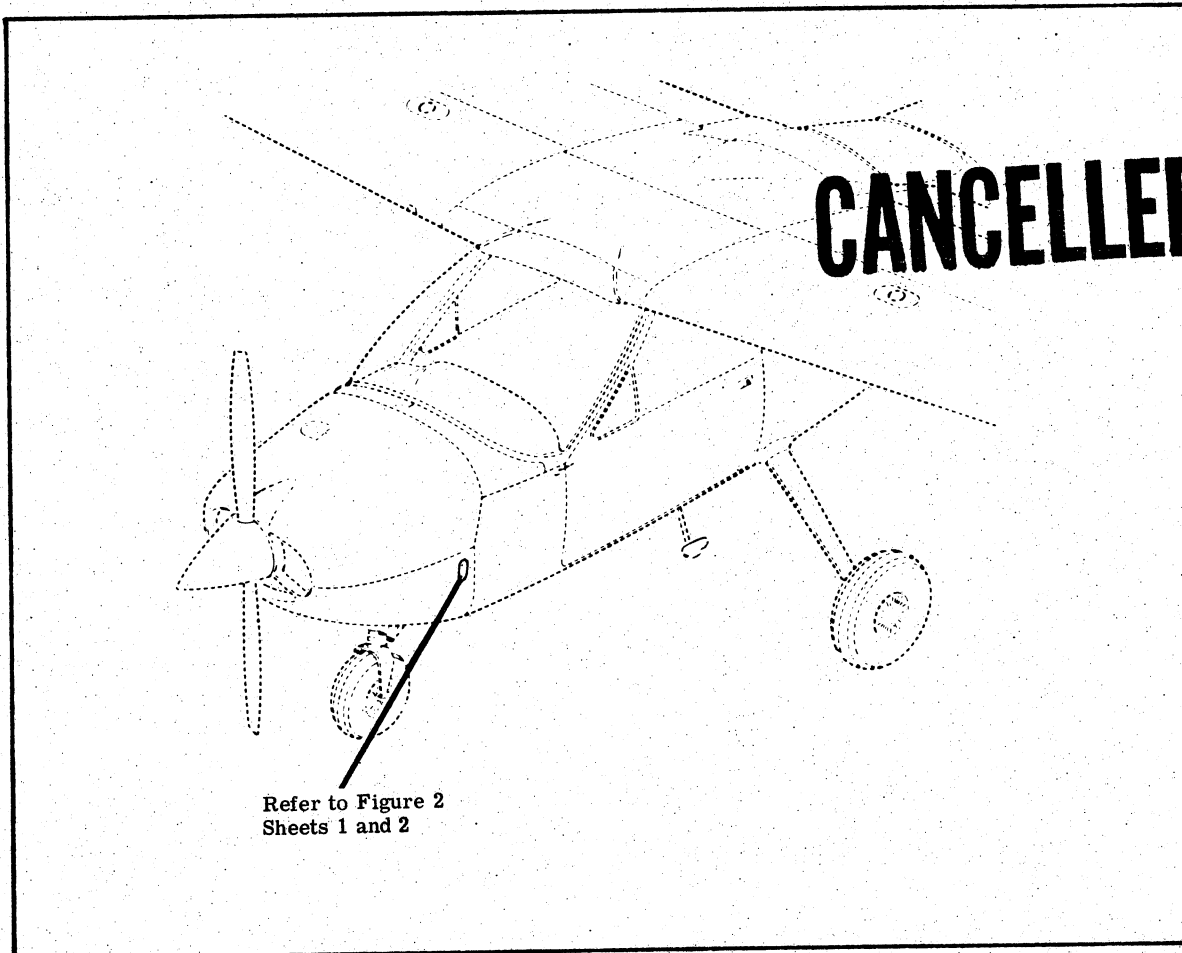

Figure 1. Ground Service Receptacle Location
a. (Refer to figure 1.) Installation of this kit consists of:
- (1) Installing stiffener and bracket on firewall.
- (2) Installing receptacle and diode board.
- (3) Installing doubler assembly and access door on lower cowl.
- (4) Installing receptacle contactor on firewall.
- (5) Installing fuse and diode assembly on battery box.
- (6) Fabricating and installing the necessary wiring.